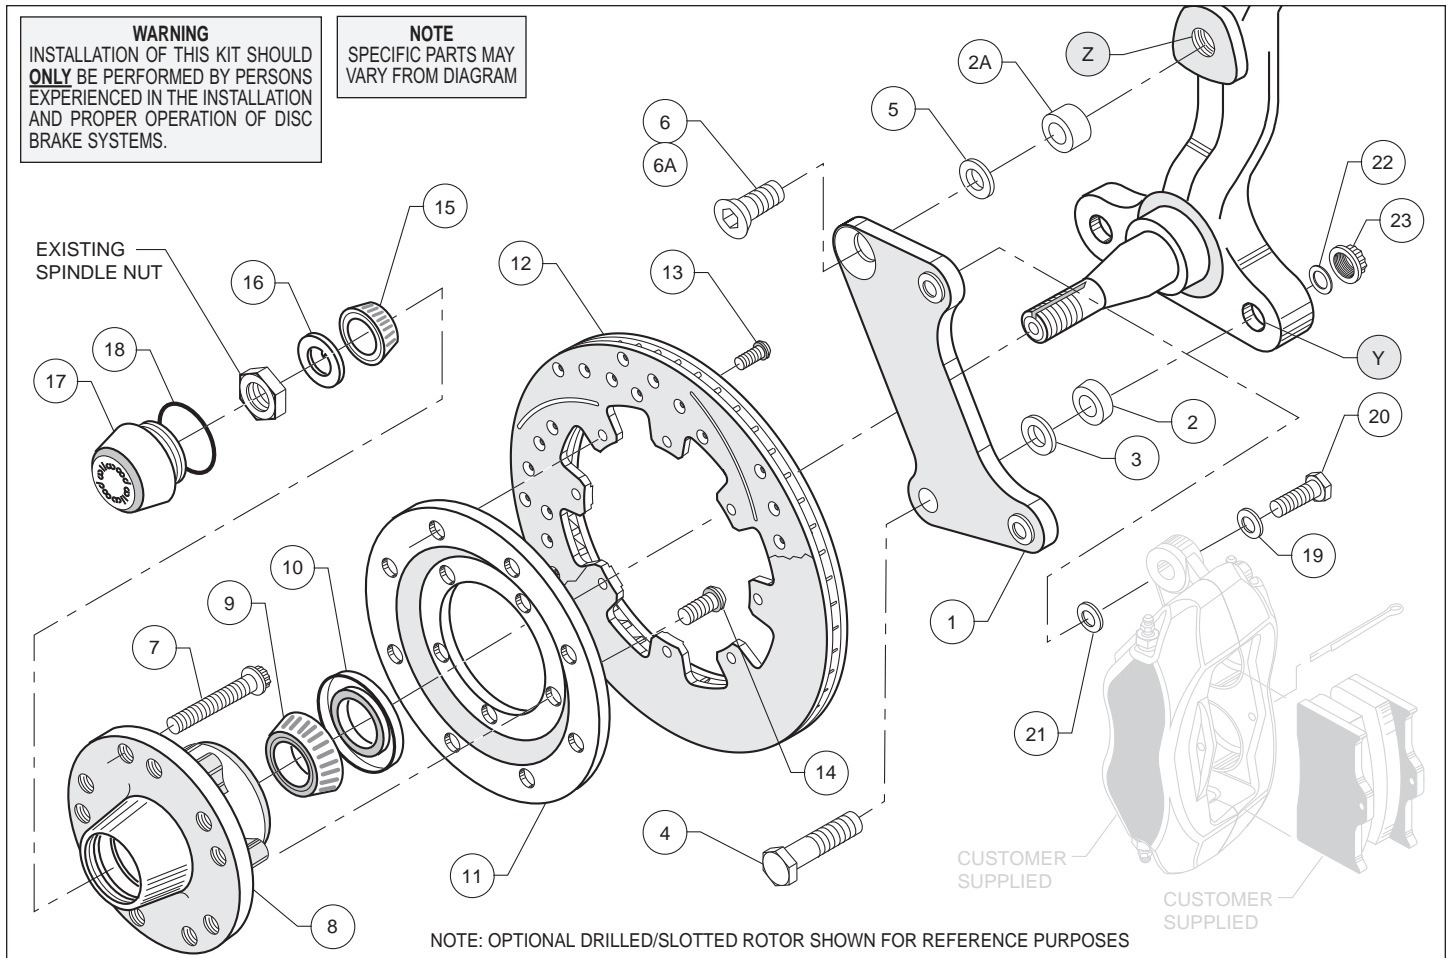
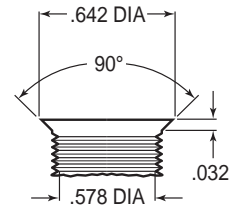

Figure 1. Typical Installation Configuration
Figure 3. Drill and Tap Detail
•**NOTE:** 1964-66 spindles may require the following modifications (reference Figure 1 and Figure 3): Top anchor pin hole (Z) must be drilled and tapped to the dimensions as outlined in Figure 3. Bottom rear steering arm bolt hole (Y) in the spindle and steering arm must be enlarged to .50" by drilling. A 1/2-20 backing nut (not supplied in kit) will need to be acquired to torque bracket / steering arm bolt (supplied in kit).
•Attach caliper mounting bracket (1) to spindle face using lower bolt (4), and a .090" thick spacer (2) positioned between the bracket and the spindle face, as shown in Figure 1. Secure bolt on the backside of the steering arm with washer (22) and lock nut (23). Finger tighten. Install upper bolt (6) (for drum spindle) or bolt (6A) with spacer (2A) between bracket and spindle (for disc brake spindle). Ensure that the flanged heads of the clinch nuts in the bracket are facing outboard. Temporarily tighten the mounting bolts and install the new hub/rotor assembly (8/12). Check that the bracket is aligned parallel to the rotor. If not, adjust by adding shim washers (3 and/or 5) between spacers (2 and/or 2A) and the bracket, Figure 1. Once the bracket alignment is correct, remove the upper bolt (6 or 6A), apply red *Loctite*® 271 to bolt threads, and torque to 120 ft-lb. Torque lock nut (23) to 65 ft-lb.
•Install wheel studs (7) into the hub (8). Torque to 77 ft-lb. **NOTE:** There are two five lug patterns in the hub (5 x 4.50 and 5 x 4.75). Make sure of the correct hole pattern for the correct wheel application before installing studs into hub.
•Pack the large inner bearing cone (9) with high temperature disc brake bearing grease (available from your local auto parts store) and install into the backside of the hub (8).
•Install the grease seal (10) by pressing into the backside of the hub (8).
•Orient the rotor (12) and the rotor adapter (11) as shown in Figure 1. Attach the rotor to the adapter using bolts (13). Using an alternating sequence, apply red *Loctite*® 271 to the threads, and torque to 25 ft-lb.
- Mount the adapter/rotor assembly (11/12) to the hub (8) using bolts (14), as shown in Figure 1. Using an alternating sequence, apply red *Loctite*® 271 to the threads, and torque to 45 ft-lb.
- Pack the small outer bearing cone (15) with high temperature disc brake bearing grease and install into front of hub (8). Slide the hub/rotor assembly (8 and 12) with outer bearing cone (15) onto the spindle. Secure using spindle washer (16), stock adjusting nut and nut locking device. Adjust bearings per Original Equipment Manufacturer (OEM) specifications.
- Install the dust cap (17) onto the hub (8). Friction created by the o-ring (18) on the dust cap (17) keeps it from unscrewing. The O.D. of the existing spindle washer may be larger than the I.D. of the dust cap (17) not allowing it to seat against the hub face. Some grinding on the washer O.D. may be necessary to clear the I.D. of the dust cap (17).